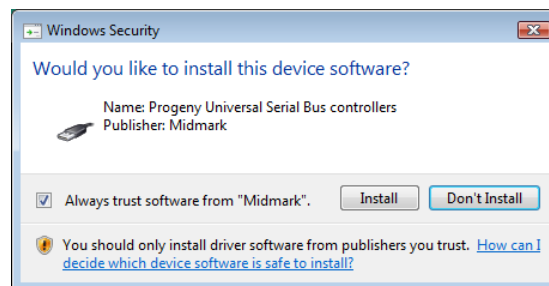

Figure 5: Enable Midmark software installation
- The dialog box shown on Figure 5 may appear when Progeny Device Suite is installed in Windows Vista and Windows 7 environments. Select ‘Always trust software from Midmark’ check box and click on the Install button.